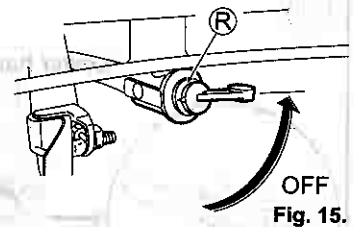

Fig. 15.
- 3 Set Fuel cock (R) to "OFF". (See Fig. 15.)